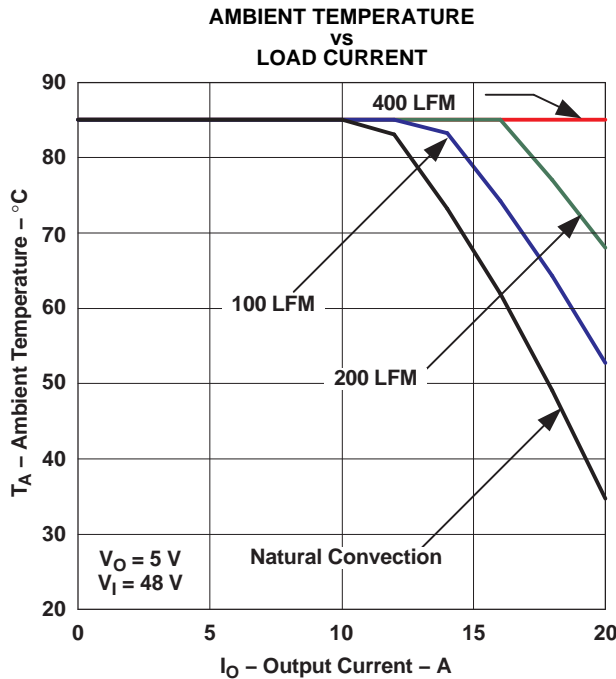

Figure 12.
- (2) The temperature derating curves represent operating conditions at which internal components are at or below manufacturer's maximum rated operating temperature. Derating limits apply to modules soldered directly to a 100–mm x 100–mm, double-sided PCB with 2 oz. copper. For surface mount packages, multiple vias (plated through holes) are required to add thermal paths around the power pins. Please refer to the mechanical specification for more information. Applies to Figure 12.